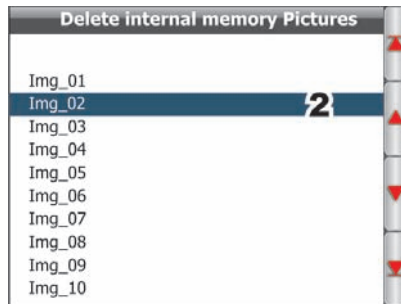

Fig. 157
- 2 Scroll down the picture list (Fig. 157) and select the files to delete;